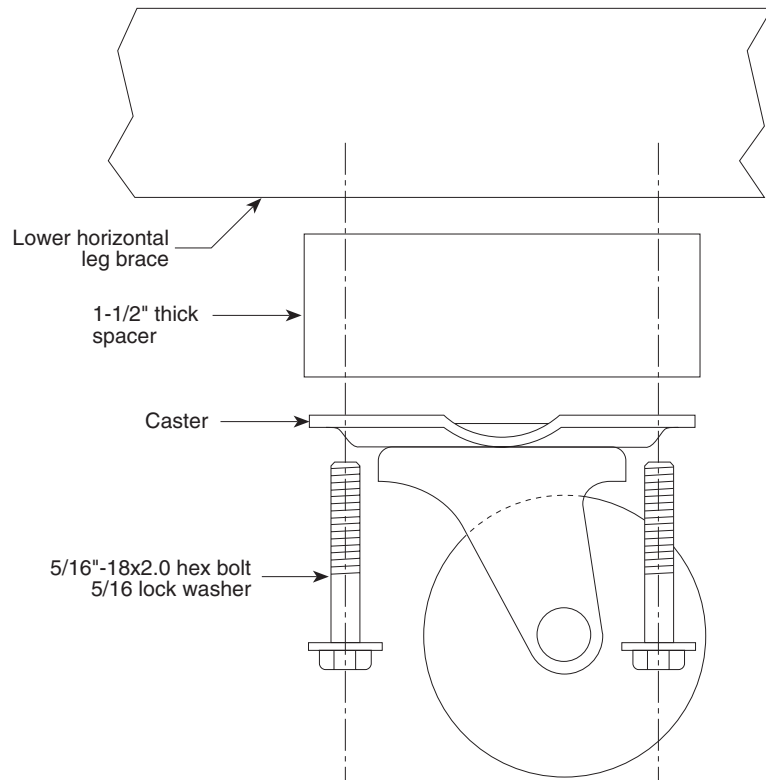

Figure 2.2 — Caster Installation
- C. If casters have been ordered, fasten them to the frame assemblies at the pre-drilled and tapped locations on the lower cross members (Figure 2.2), placing the 1 1/2 inch spacers between the caster and the frame. Transferring the load to the casters is accomplished by simply retracting the leveling pads into the legs once assembly is completed. After the workstation has been moved to the desired location, re-extend the leveling pads to lift the casters off the floor. Do not use the IsoStation with the casters in contact with the floor.